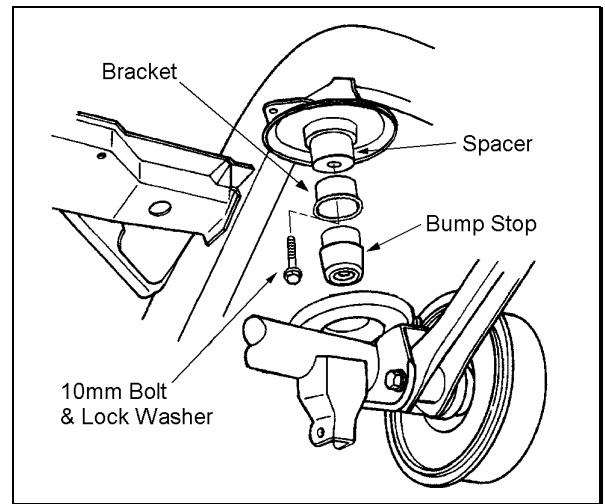

Figure 10
2. ☐ Insert a Rancho spacer from kit 8567 and reinstall the bracket with the 10mm hardware from kit 860073. See figure 10.